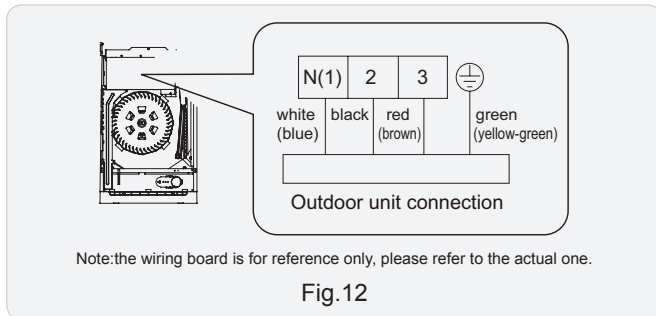

Fig.12
(2) Remove the wire clip; connect the power connection wire to the wiring terminal according to the color; tighten the screw and then fix the power supply wire, power connection wire with wire clip. (As show in Fig.12)